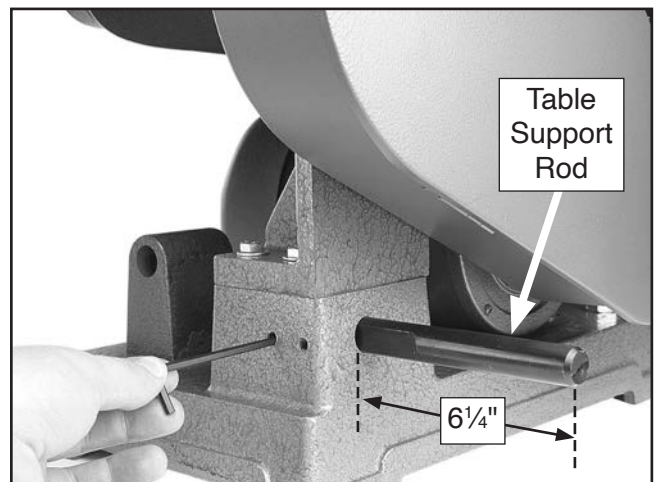

Figure 34. Installing table support rod.
27. Loosen the (2) set screws on the back of the base, slide the table support rod into the base, making sure the flat of the rod faces the set screws, then tighten the set screws, as shown in **Figure 34**. The rod should protrude about 6¼" from the side of the base.